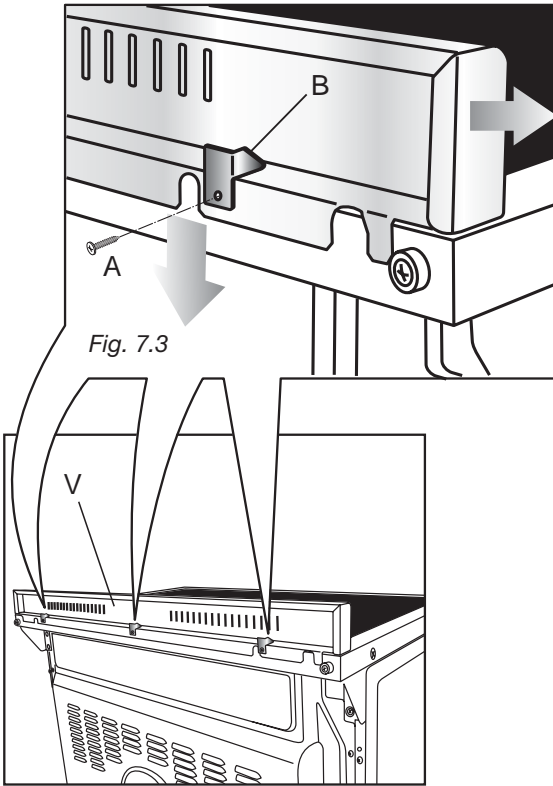

Fig. 7.3
Before installing the cooker, assemble the backguard "V" (fig. 7.3).
- The backguard must be fixed to the cooktop using the three supports "B" supplied with the appliance (see fig. 7.3).